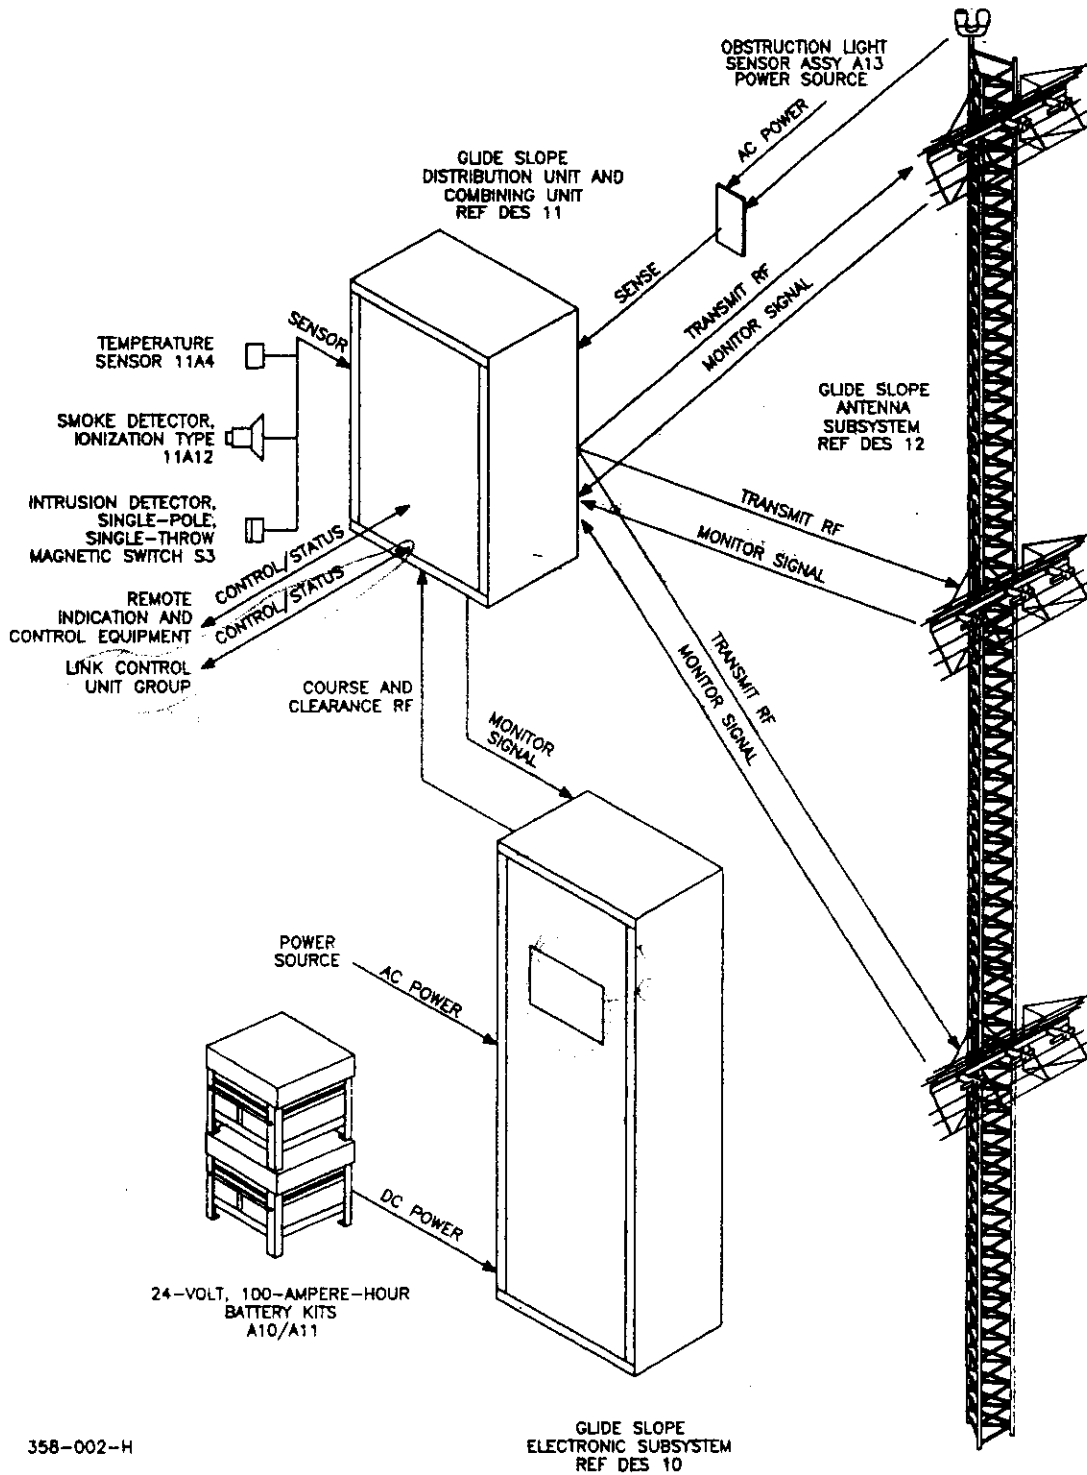

Figure 1-1. Glide Slope Group, Relationship of Units
1.2.1 Physical Description.- See figure 1-1. Figure 1-1 illustrates the relationship of the major assemblies of the glide slope group. The major assemblies are glide slope electronic subsystem 10; glide slope antenna subsystem 12 which includes glide slope distribution unit and combining unit 11; 24-volt, 100-ampere-hour battery kits A10 and A11; and glide slope environmental sensor kit. These assemblies are described in the following paragraphs.
1.2.2 Functional Description.- See figure 1-1. Angle of descent information is generated by the glide slope equipment. The transmitted ultrahigh frequency (uhf) signal is a horizontally polarized, composite field pattern modulated by 90 and 150 Hz. The transmitted signal is received by the landing aircraft and displayed on a visual indicator, enabling the pilot to maintain proper vertical flight direction until the landing is completed. The radiation pattern establishes a straight-line descent path in a vertical plane containing the runway centerline extension. The 90-Hz modulation predominates above the glidepath and the 150-Hz modulation predominates below the glidepath. The glidepath angle can have values from 2° to 4°, depending upon topography of the runway approach area, but the glidepath angle is normally 3.0°. If the aircraft is on the glidepath, the airborne indicator shows no deflection. If the aircraft is above the glidepath, the 90-Hz depth of modulation predominates causing a downward deflection of the indicator pointer. If the aircraft is below the glidepath, a similar but opposite pointer deflection occurs (150-Hz depth of modulation predominant). The following paragraphs contain functional descriptions of the assemblies of the glide slope group.
1.2.2.1 Glide Slope Electronic Subsystem 10.- See figure 1-1. Glide slope electronic subsystem 10 generates the modulated radio frequency (rf) signal for the glide slope station. Glide slope electronic subsystem 10 monitors the parameters of the glide slope station and will switch operating equipment if a critical parameter limit is exceeded. If a critical parameter limit is still exceeded, glide slope electronic subsystem 10 will shut down the glide slope station. The glide slope electronic subsystem contains various sensors, microcomputers, built-in test equipment, and microprocessor-controlled equipment necessary to remotely monitor, control, record, and certify proper operation of the glide slope subsystem. The glide slope electronic subsystem contains a terminal interface (PMDT connector 10A1J4 on subsystem control panel cca 10A1) for a pm dt. When a pm dt is connected to glide slope PMDT connector 10A1J4 or remotely via a switched telephone line and properly logged on at level 2 or 3; an authorized operator can perform routine maintenance tasks, record site data, perform fault isolation and diagnostic tests, and control and adjust glide slope equipment parameters. Glide slope station status information is sent to the remote indication and control equipment remote control and status unit (rcsu) 60 and rcsu control information is sent to the glide slope station via a single voice-grade balanced telephone line pair.
1.2.2.2 Glide Slope Antenna Subsystem 12.- See figure 1-1. Capture-effect glide slope antenna subsystem 12 radiates in space the rf energy generated by the glide slope electronic subsystem to produce a uhf signal. The rf signals are routed from the glide slope electronic subsystem through the glide slope ducu where the signals are properly phased then routed to glide slope antenna elements. The signal received by aircraft instrumentation aids the pilot in aligning the aircraft on the glidepath during an approach and landing. The glide slope antenna subsystem also samples the radiated signals and provides the radiated signal samples to the glide slope electronic subsystem for monitoring.
1.2.2.3 24-Volt, 100-Ampere-Hour Battery Kit A10/A11.- See figure 1-1. Battery kits A10 and A11 provide operating voltage to the glide slope station in the event of primary power failure.
1.2.2.4 Glide Slope Environmental Sensor Kit.- See figure 1-1. The glide slope environmental sensor kit contains sensors and detectors that monitor conditions around the glide slope site. There are sensors that monitor glide slope ducu 11 inside temperature (temperature sensor assembly 11A4), detect presence of smoke in the shelter (ionization type smoke detector A12), detect whether the shelter door is open or not (single-pole single-throw magnetic switch [intrusion detector] S3), and monitor status of the antenna obstruction lights (degraded) (obstruction light sensor assembly A13).